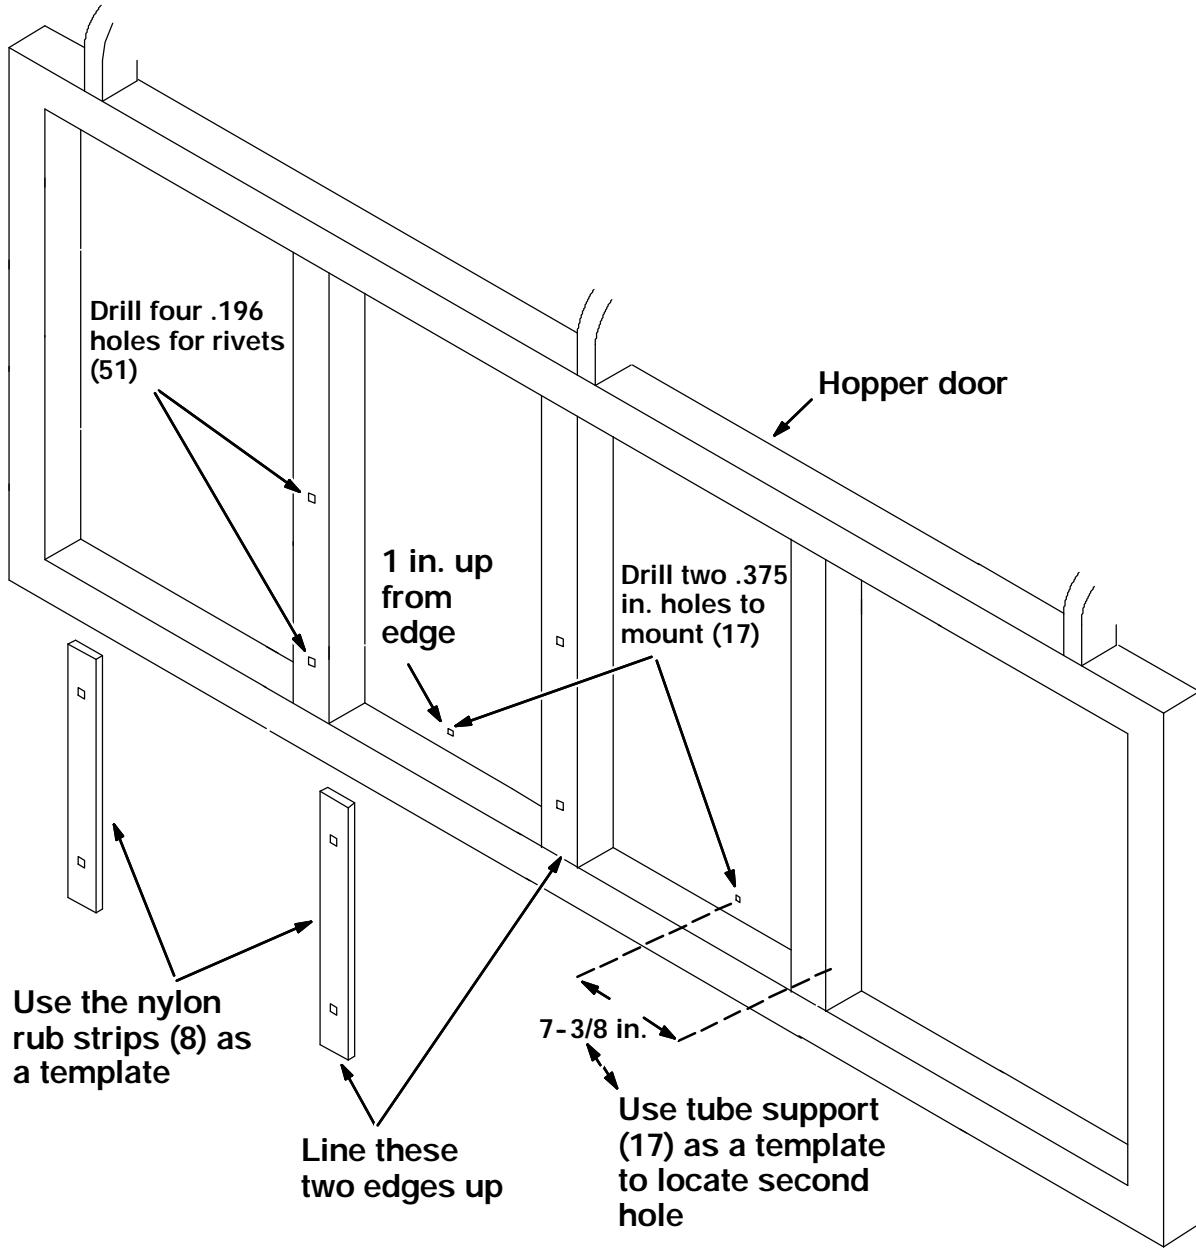

FIG. 3 - Mount Hole Locations In Hopper Door
(Refer to Figures 3, 4, and 5)
1. The hopper dump door must be in the open position. (Refer to Fig. 3 and 4)
3. Drill one .375 (3/8) in. hole in the hopper dump door 1 in. up from the bottom tube and 7-3/8 in. over from the edge of the second rib from the right. (Refer to Fig. 3)
4. Using the rear tube support (17) as a template, line up the hole just drilled with the hole in the right side of the tube support (17) and mark the second hole on the left side of the dump door. This hole is also located 1 in. up from the top of the bottom tube. (Refer to Fig. 3 and 4)
7. Attach the two nylon strips (8) using the four rivets (51) provided in this kit. (Refer to Fig. 3 and 4)